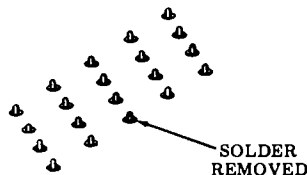

Fig. 14—Connector Pins
- Remove solder from around connector pins of cable to be removed (Fig. 14).
(b) Remove solder from around connector pins of cable to be removed (Fig. 14).